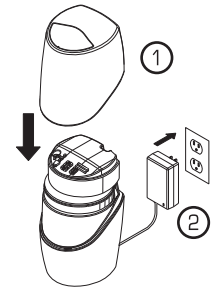

Fig. 49
3. **Place** the Top Shroud onto Base (1). **Plug** the Power Adapter into the wall outlet (2) (Fig. 49)